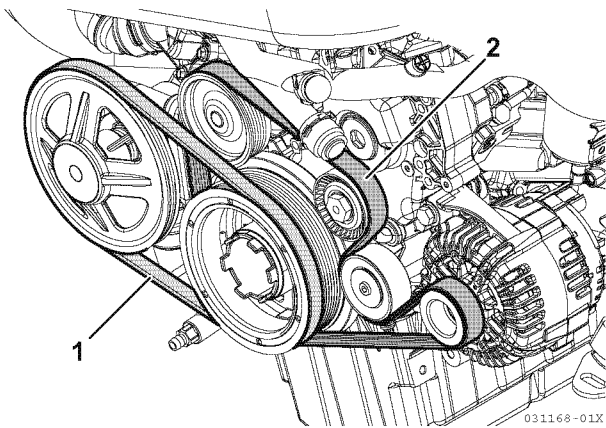

Figure 4-7
3. Check the seawater pump belt (1, **Figure 4-7**) and alternator belt (2, **Figure 4-7**) for wear, cracks or damage.